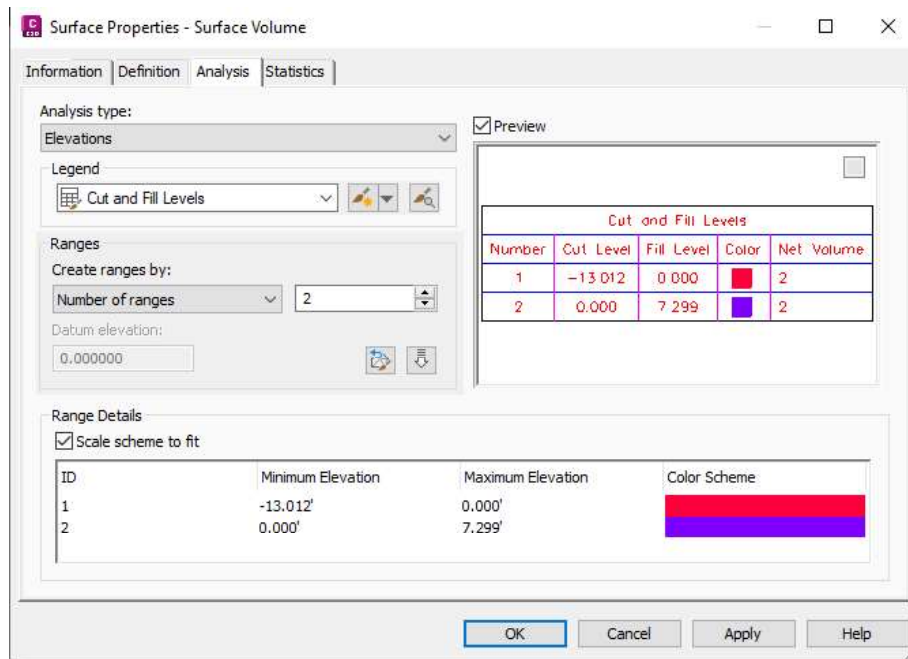

Figure 4-27 The *Analysis* tab displaying the *Cut and Fill Levels* legend table in the *Preview* window
21. Select the **Preview** check box in the **Analysis** tab of the **Surface Properties - Volume Surface** dialog box to view the new **Cut and Fill Levels** legend table in the preview, as shown in Figure 4-27.